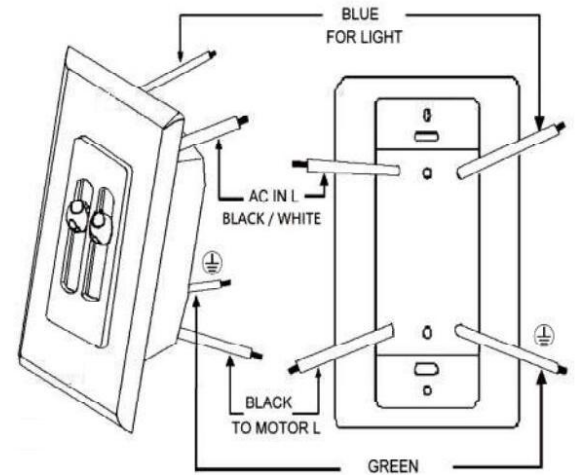

Figure1
2. Installation of this control requires that a three-conductor cable with ground wire be run between the control wall box and the ceiling fan outlet box. (Figure 1)